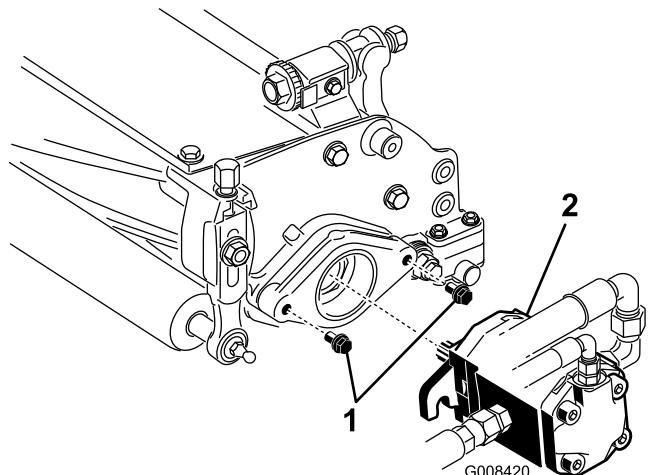

Figure 11
7. Ensure that there is approximately 13 mm (1/2 inch) of the threads exposed on each reel drive motor mounting bolt (Figure 11).
counterclockwise until the flanges are encircling the studs (Figure 11).
9. Tighten the mounting bolts (Figure 11).